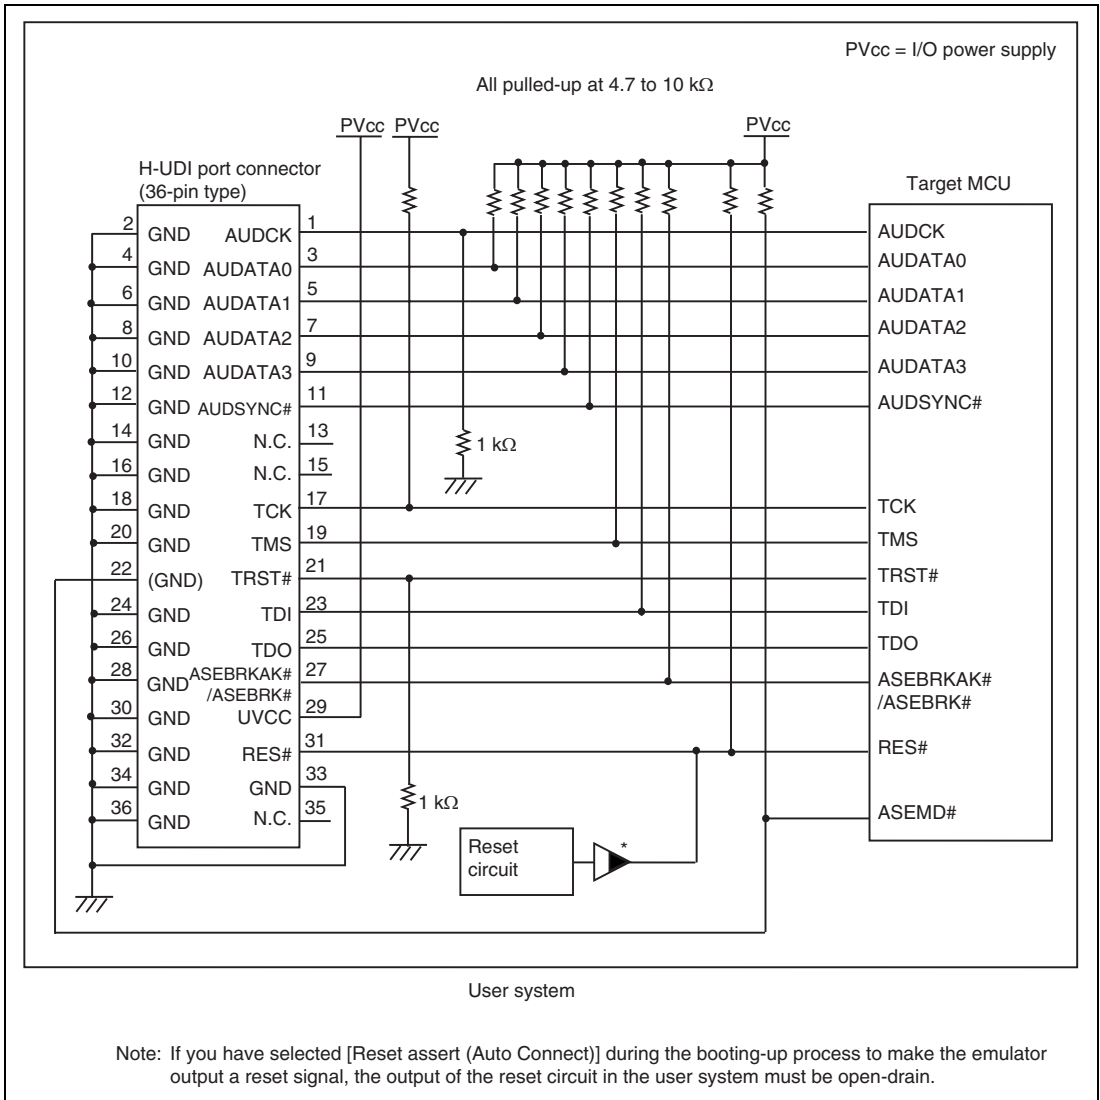

Figure 1.8 Recommended Circuit for Connection between the H-UDI Port Connector and MCU when the Emulator is in Use (36-Pin Type)
Figure 1.8 shows a recommended circuit for connection between the H-UDI and AUD port connectors (36 pins) and the MCU when the emulator is in use.
- (1) When the emulator is used: ASEMD# = 0
- (2) When the emulator is not used: ASEMD# = 1Figure 1.8 shows an example of circuits that allow the ASEMD# pin to be GND (0) whenever the emulator is connected by using the user system interface cable. When the ASEMD# pin is changed by switches, etc., ground pin 22. Do not connect this pin to the ASEMD# pin.
7. The resistance value shown in figure 1.8 is for reference.
When the circuit is connected as shown in figure 1.8, the switches of the emulator are set as SW2 = 1 and SW3 = 1. For details, refer to section 3.8, Setting the DIP Switches, in the SuperH™ Family E10A-USB Emulator User's Manual.